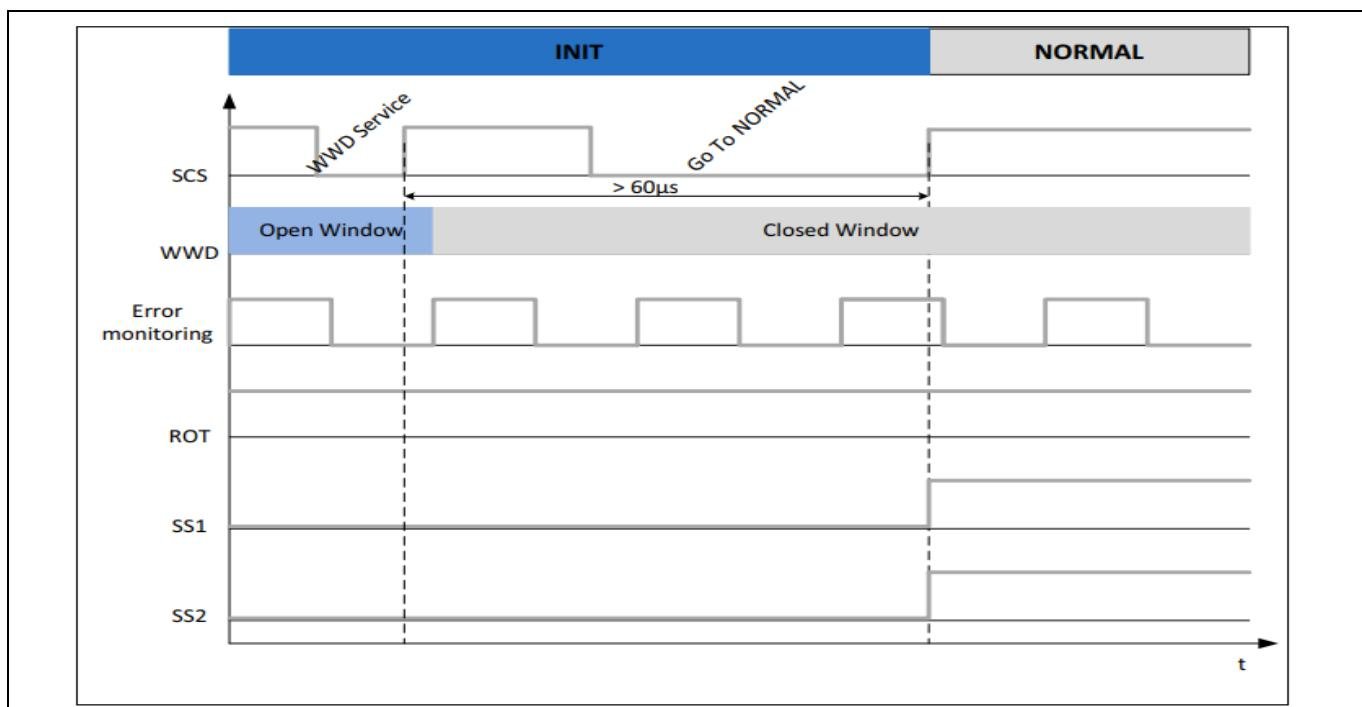

Figure 3 Transition from INIT to NORMAL state
- ERR monitor needs to be serviced with a valid signal (minimum 3 periods) or disabled within the INIT timer. The error valid signal is described in Table 18 of TLF3558x datasheets and exemplified by the square wave, "Error monitoring" as shown in Figure 3
- If the functional watchdog is activated, a valid FWD triggering needs to be provided according to the definition explained in TLF3558x datasheets. Only window watchdog, WWD, not FWD, is shown in Figure 3